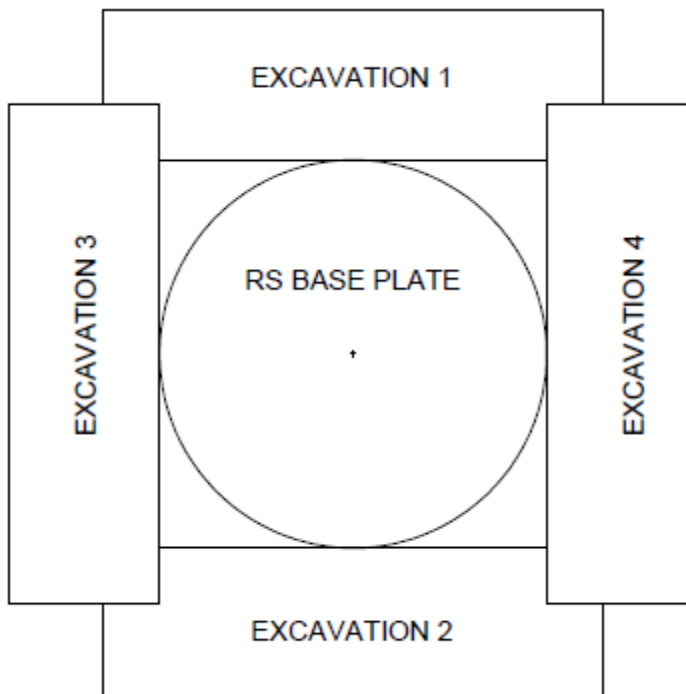

Figure 1. Excavation Sequence
- 5.3.6 Excavation shall be completed in the sequence showed on Figure 1. This will ensure maximum efficiency and minimize backhoe setups. Excavate to the depth of the base plate, in some cases this depth will be considerable. Keep all technicians away from the excavation as cave-ins are possible.